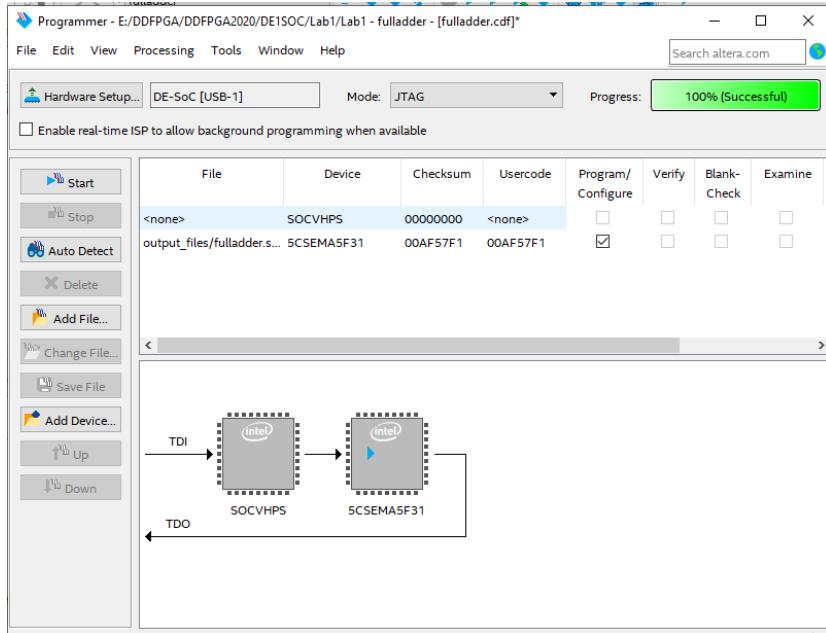

Fig. 1.12 Programmer window
- Select **Tools - Programmer** to reach the window in Fig.1.12
Observe that the configuration file **fulladder.sof** in directory output files is listed in the window. If the file is not already listed, then click **Add File** and select it. This is a binary file produced by the Compiler's Assembler module, which contains the data needed to configure the FPGA device. The extension .sof stands for SRAM Object File. Ensure the **Program/Configure** box is checked. This setting is used to select the FPGA in the Cyclone V SoC chip for programming. If the SOCVHPS device is not shown as in Fig. 1.12, click **Add Device - SoC Series V - SOCVHPS** then click **OK**. Ensure that your device order is consistent
with Fig. 1.12 by clicking on a device and then clicking or .